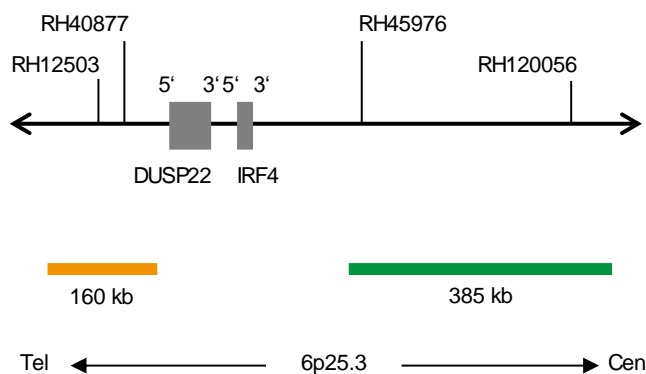

Fig. 1: SPEC IRF4,DUSP22 Probe map (not to scale)
- ZyGreen (excitation 503 nm/emission 528 nm) labeled polynucleotides (~10 ng/ $\mu$ l), which target sequences mapping in 6p25.3\* (chr6:557,233-940,968) proximal to the IRF4,DUSP22 breakpoint region (see Fig. 1).
- ZyOrange (excitation 547 nm/emission 572 nm) labeled polynucleotides (~4.5 ng/ $\mu$ l), which target sequences mapping in 6p25.3\* (chr6:114,722-273,908) distal to the IRF4,DUSP22 breakpoint region (see Fig. 1).